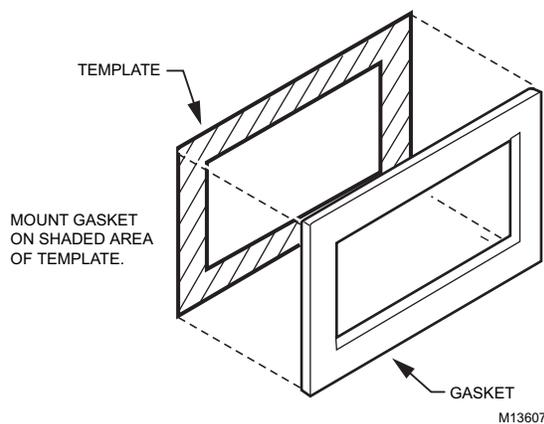

Fig. 38. Installing Gasket.
4. Remove the protective backing from the Humidistat Gasket and mount the Gasket on the shaded area of the template. See Fig. 38.